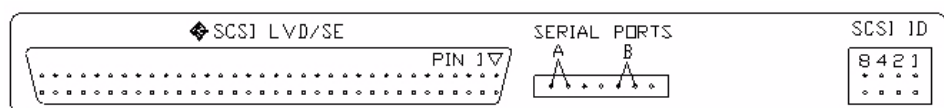

Figure 1-7 Back-panel label (SCSI tape drive)
- ▶ The back-panel label (Figure 1-7) identifies the tape drive connectors and jumpers.